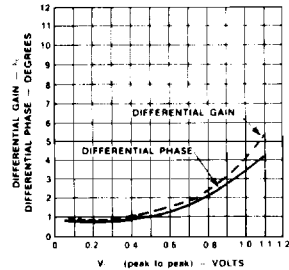

Fig. 2
- Differential Gain and Differential Phase are measured with Tektronix NTSC Signal Generator (147A) and Vector Scope (520A). See Figure 2.